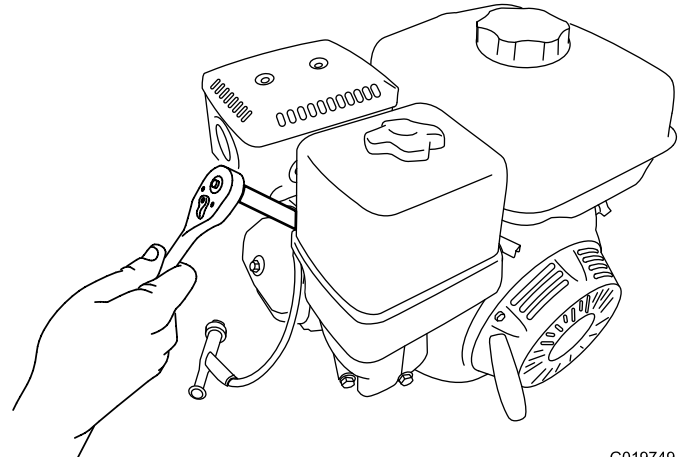

Figure 49
- Rotate the spark plug counterclockwise using a 20 mm (13/16 inch) spark-plug wrench to remove the plug and the sealing washer (Figure 49).
2. Rotate the spark plug clockwise using a 20 mm (13/16 inch) spark-plug wrench until the plug and sealing washer are seated (Figure 49).